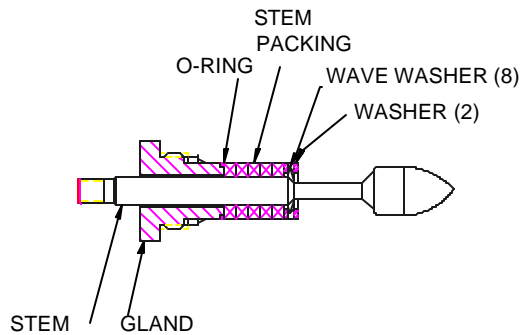

Figure 4
- a. Holding the steam valve body (11) upside down (note nameplate orientation), insert the threaded end of the stem (17) into the threaded end of the body until the stem bottoms out on the seat. Assemble washers (125A), wavewashers (125), stem packing (25), O-ring (39D) and stem packing gland (19) over the stem. See Figure 4.